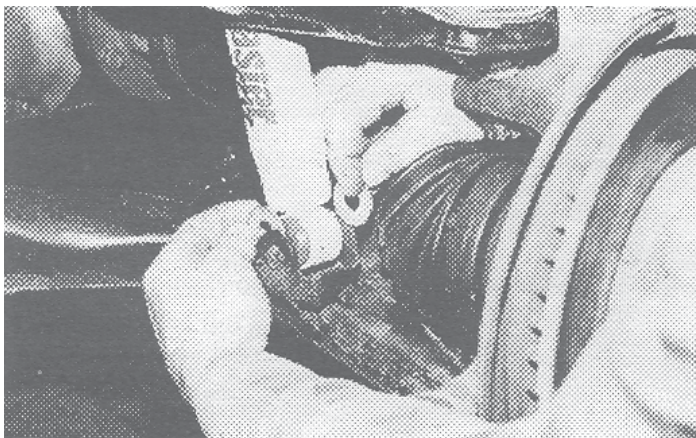

Fig. 41
40. Install shocks supplied. Use OE bolts, washers, and nut. Shim shock forward, if necessary, remove upper control arms and using 1/2" washers provided to gain clearance between shock body and C.V. **Fig. 41.** Torque OE fasteners to specification.